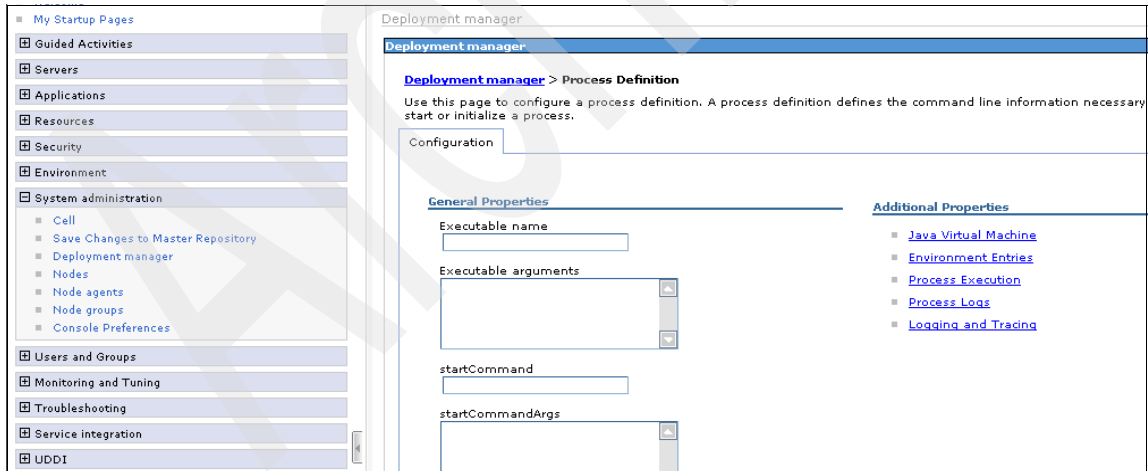

Figure A-8 Java Virtual Machine
8. Click **Java Virtual Machine** (see Figure A-8).